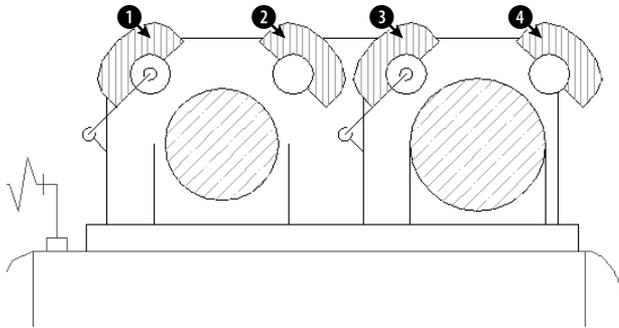

Figure 16-26: The result after editing the two hatches.
4. You're now back in your drawing. Pick the two large circles in Figure 16-26. Right-click and choose Preview. Press Esc to return to the dialog box. Click OK to create the hatch and end the BHATCH command.
6. Choose Pick Points. In your drawing, pick points ①, ②, ③, and ④ in Figure 16-26. Right-click and choose Preview. Right-click again to create the hatch and end the BHATCH command.
8. Double-click one of the hatches at the top of the model. Notice that this action selects all the hatches because they were created with one command. In the Hatch Edit dialog box that opens, change the angle to 90 and the spacing to 0.04. Click OK. Your drawing should look like Figure 16-26.